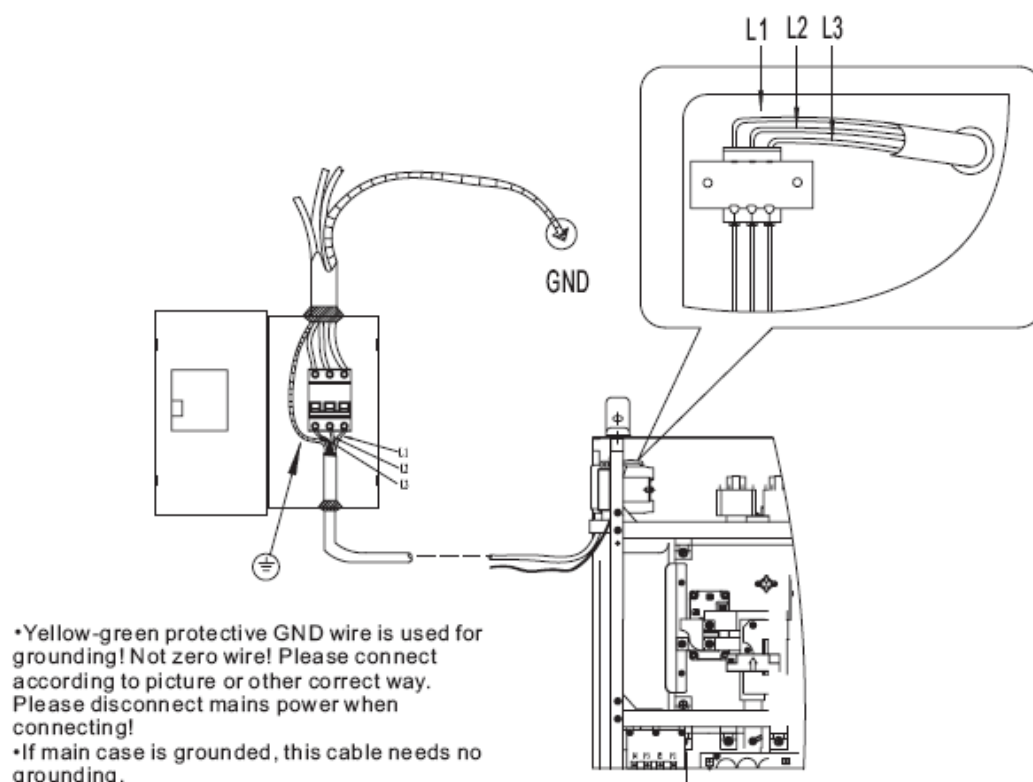

Fig. 4-6-1: Connection between input cable and distributor box
- The connection between input cable and distributor box (Fig. 4-6-1):